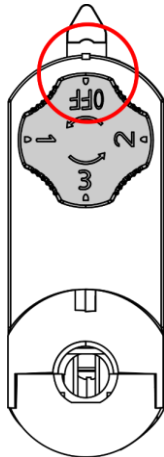

Fig. 19
- 01) Set the **color temperature switch (14)** to OFF position to turn the device off.
- 03) Make sure that the **circuit selector (03)** is in OFF position, as shown in Fig. 19.